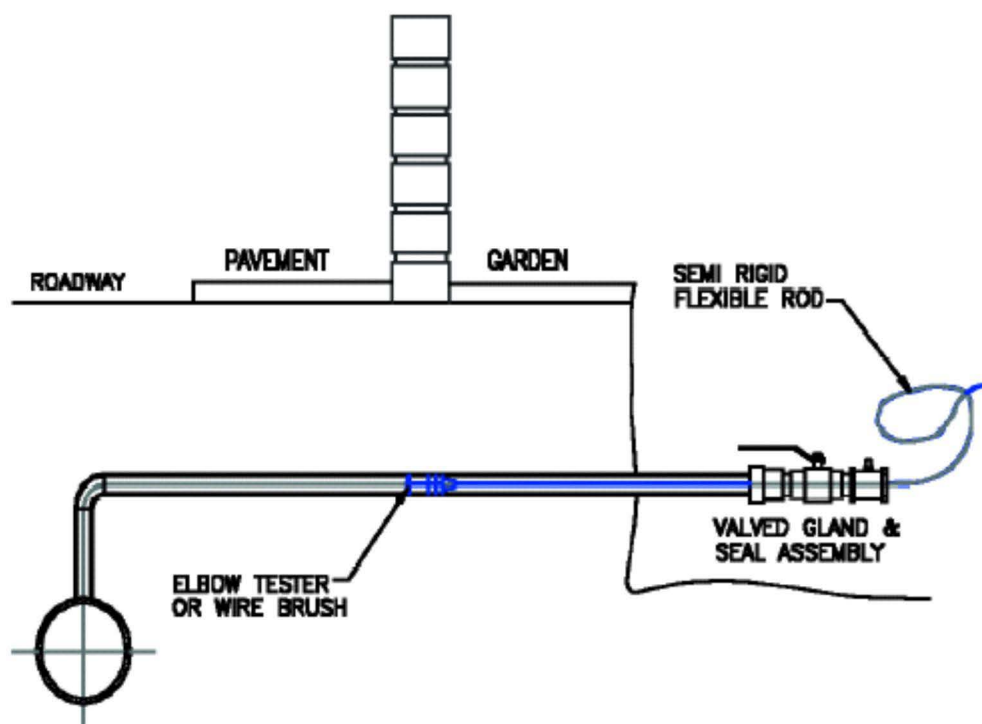

Figure B9 – Checking proposed length of LSI and cleaning steel service
11. Mark indicated service length on flexible rod with tape and steadily withdraw through valve until the tape indicating the end of the flexible rod is visible. (Figure B9).
16. Fit the pipe cleaning wire brush to the end of the semi-rigid flexible rod and fit into valved gland assembly. (Figure B9)